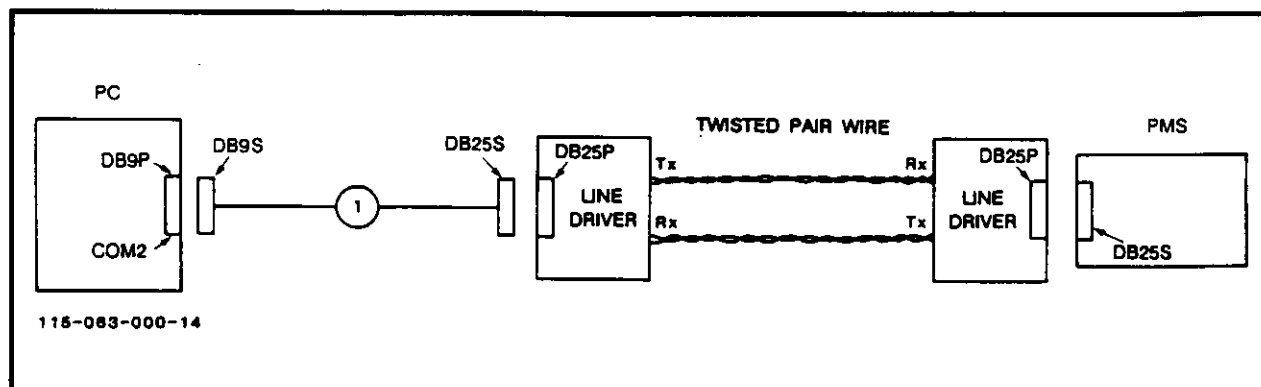

Figure 3-18. Remote PC to PMS Interface Connection
10.02 If you have a remote cable kit, refer to Figure 3-18 and follow these steps.